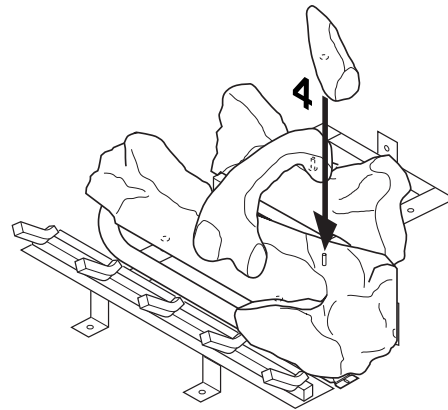

Figure 43 - Installing Log No. 4
- Place log #4 (right log) on the pin on the right side of front log as shown in Figure 43.